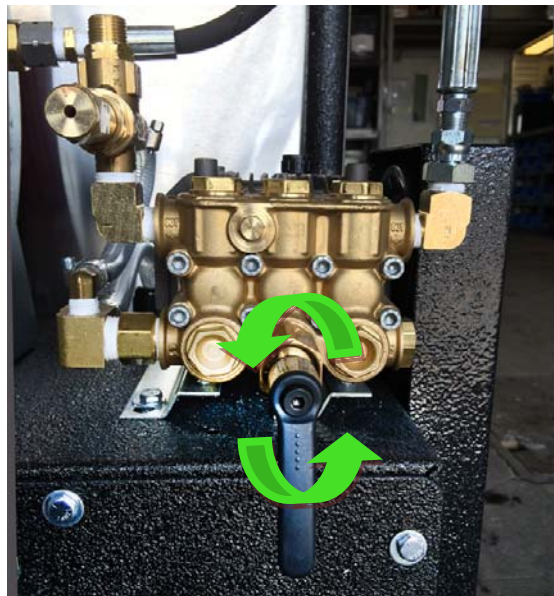

Figure 1.4
8. Unwind all tubing off of the reel. To improve the pulsing action of the unit lay the tubing on the floor such that it is as straight as possible and not in little coils. Use the jet valve for pulsing action. (Figure 1.4)
10. Once the frozen section is reached, set the mode adjustment knob on the pump for flow mode. Maintain a moderate pressure on the tubing to ensure that the probe tip remains at the frozen section while it is being thawed. If, however, the frozen section of the line cannot be reached even after extending the 100 feet of tubing to its full length, then refer to the subsection Servicing Lines Longer than 100 Feet. Thawing times vary depending on the size of the frozen section, distance from the unit, etc. (Figure 1.4)
12. Set the mode adjustment knob on the pump for pulse mode. Pull firmly back on the tubing, with the unit still turned on, to remove it from the service line. As tubing is removed from the service line do not rewind it on the reel yet (as this reduces the pulsing action which in turn increases the resistance in removing the tubing). (Figure 1.4)